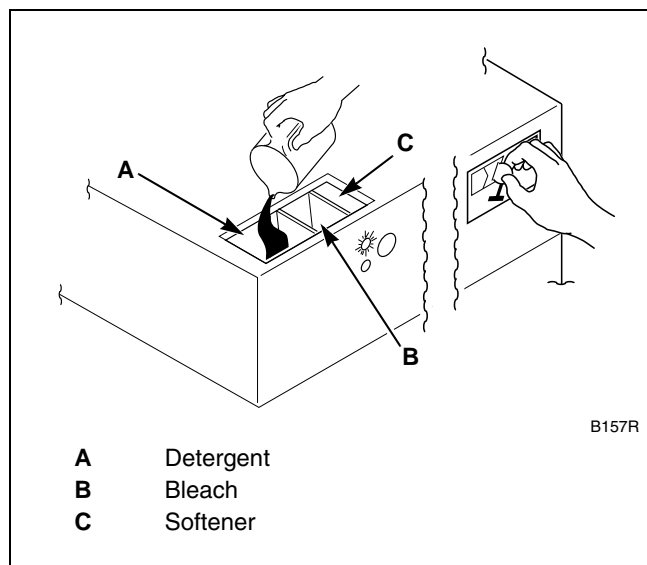

Figure 8
7. Add liquid and/or powder supplies to supply dispenser. Refer to *Figure 8*.
8. Add coins to machine. As each coin is added, the vend counts down to the amount remaining. Refer to *Figure 8*.